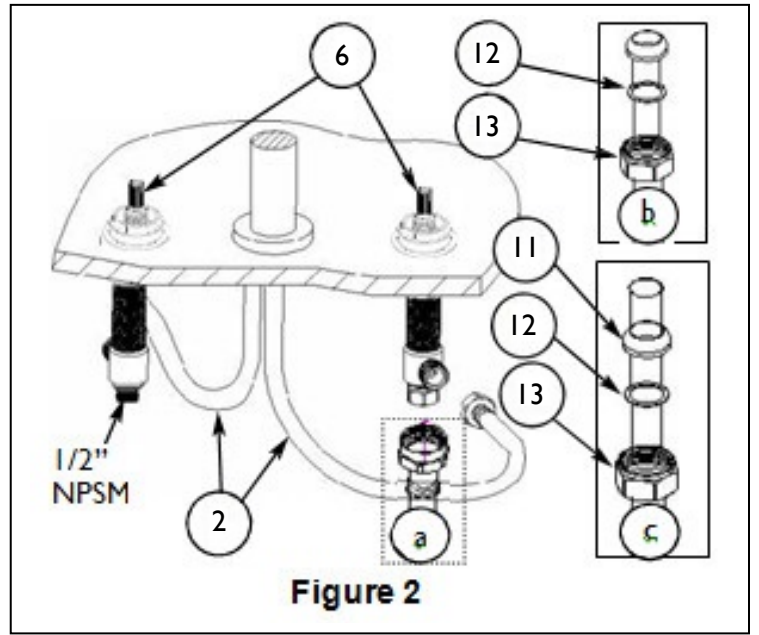
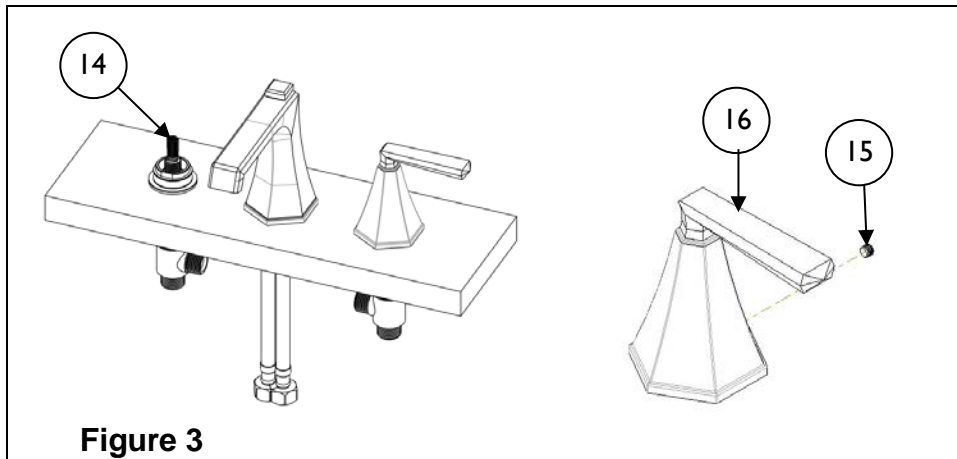

Figure 2
Figure 3
3. Connect HOSES (2) to side outlet of each valve BODY (6). Hand-tighten and secure each connection with a wrench 1/4 turn. **See Figure 2.**
4. Connect hot/cold water supply to appropriate 1/2" NPSM valve BODY (6), utilizing one of the three following types of risers. Supply risers not included. **See Figure 2.**
- b. 3/8" or 1/2" OD bullnose riser. Utilize friction WASHER (12) and coupling NUT (13).
- c. 1/2" copper riser. Utilize rubber nosecone WASHER (11), friction WASHER (12) and coupling NUT (13).
5. Turn valve STEM (14) to OFF position. As shown in **Figure 3**, place HANDLE (16) over VALVE STEM (14) and secure with SET SCREW (15).